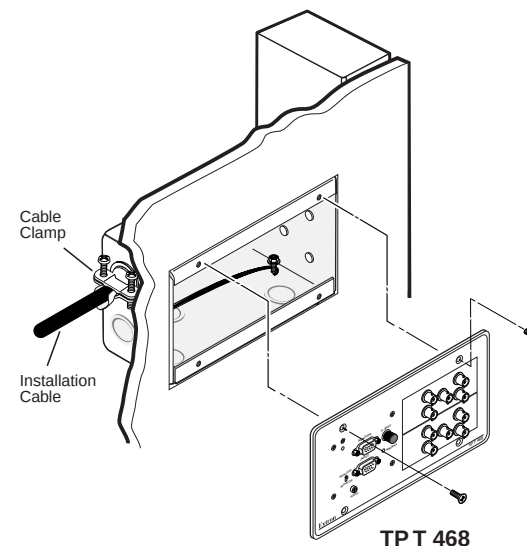

Figure A-6 — Mounting the transmitter to the wall box
3. Mount the interface's faceplate to the mud ring or wall box with machine screws (figure A-6).